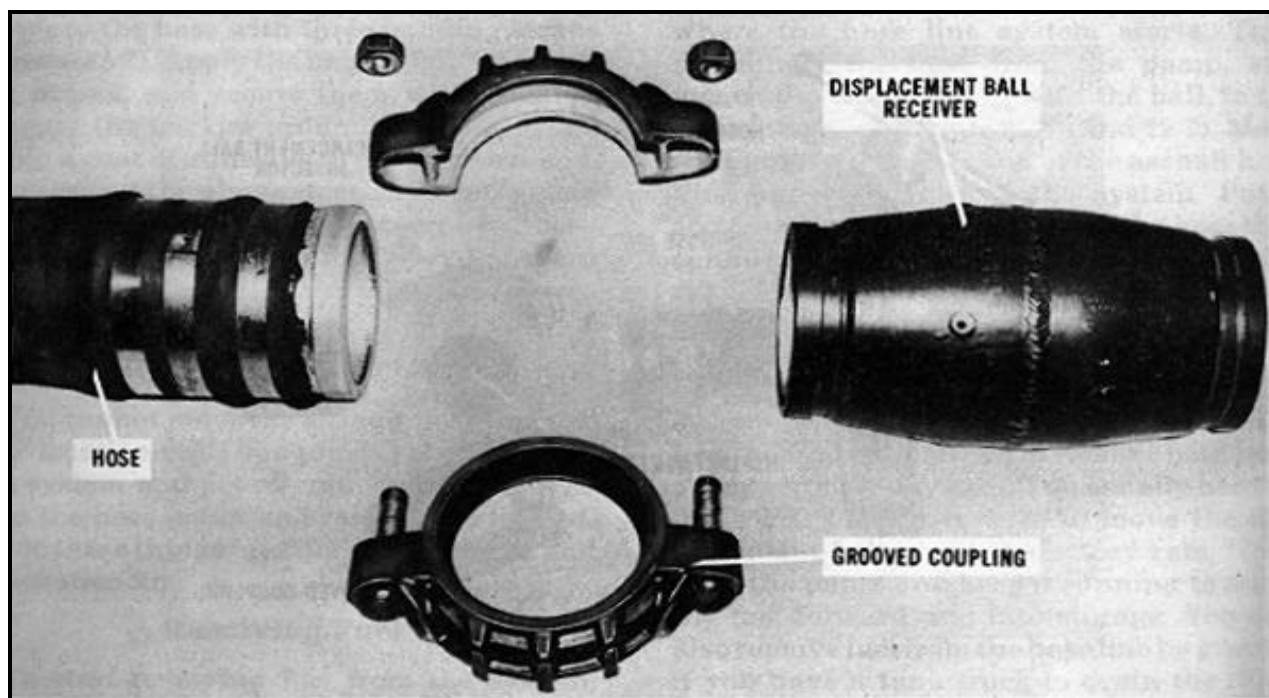

Figure 27-17. Unassembled ball receiver
- Attach the ball receiver as shown in Figures 27-17, page 27-14 and 27-18, page 27-14. Connect the hose to the pump.